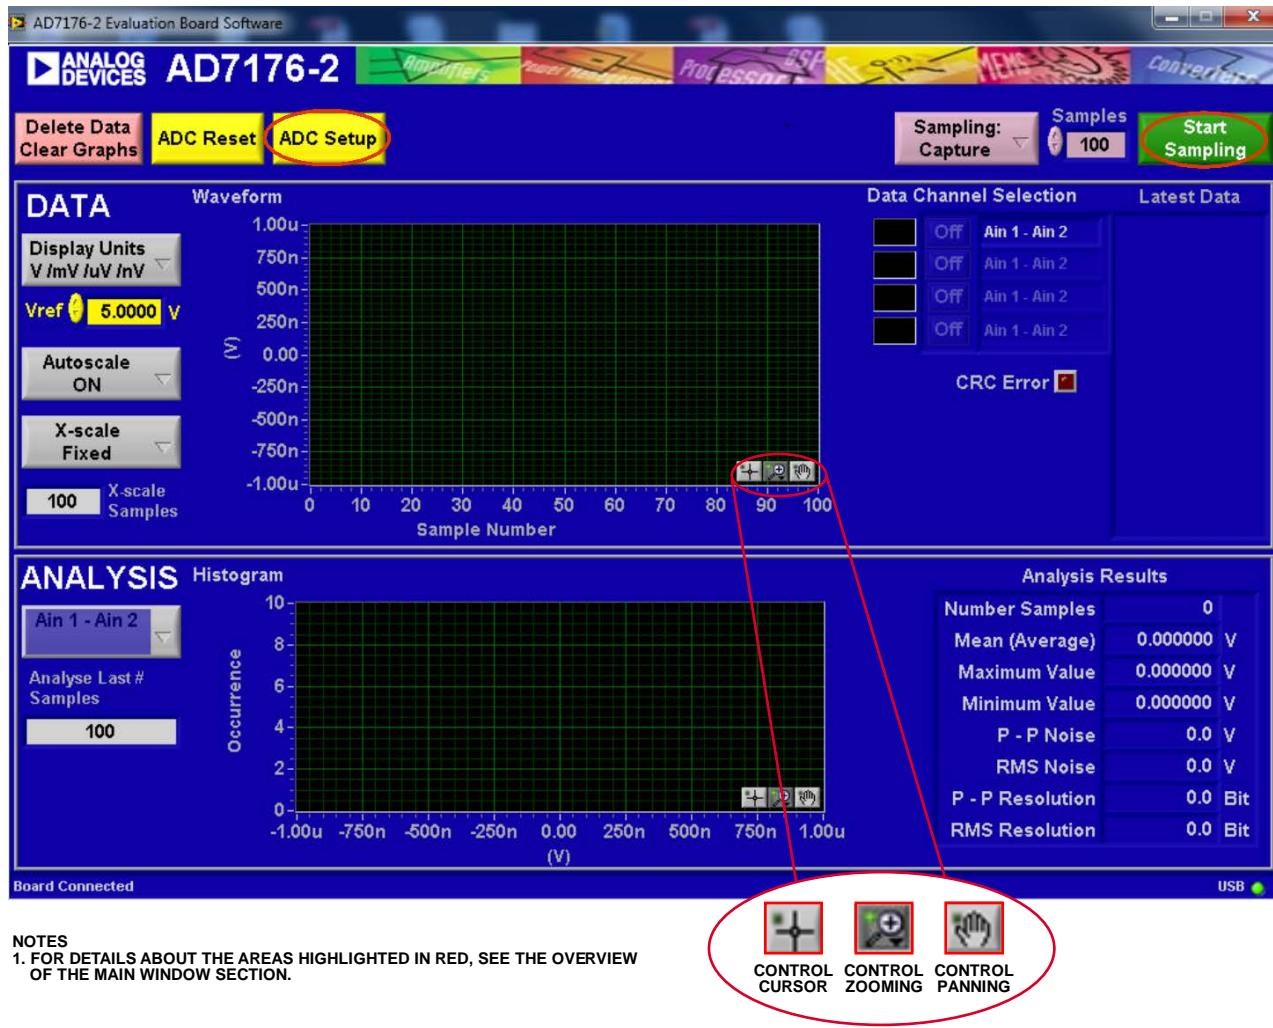

Figure 20. Main Window
When the software starts running, it searches for hardware connected to the PC. A dialog box indicates when the generic SDP attached to the PC is detected, and then the main window appears (see Figure 20).
The main window of the software (see Figure 20) contains the significant control buttons and analysis indicators of the AD7176-2 software.
Clicking **ADC Setup**, located near the top left of the main window (see Figure 20), opens the **AD7176-2 Register Interface** window.
Clicking **Start Sampling**, located near the top right hand corner of the main window (see Figure 20), starts ADC sampling; results are reported in the graphs of the **DATA** and **ANALYSIS** sections of the main window.
The indicators beside this graph show the latest data value, the channel being converted, and the flag for the error diagnostics of the AD7176-2. Navigation tools are provided to allow you to control the cursor, zooming, and panning (see Figure 20).
The graph in the bottom half, or **ANALYSIS** section, of the main window, shows the histogram analysis; to the right of the graph, the respective noise analysis on the indicator is shown. Navigation tools are provided to allow you to control the cursor, zooming, and panning (see Figure 20).
5. Use the navigation tools within each graph to control the cursor, zooming, and panning (see Figure 20).